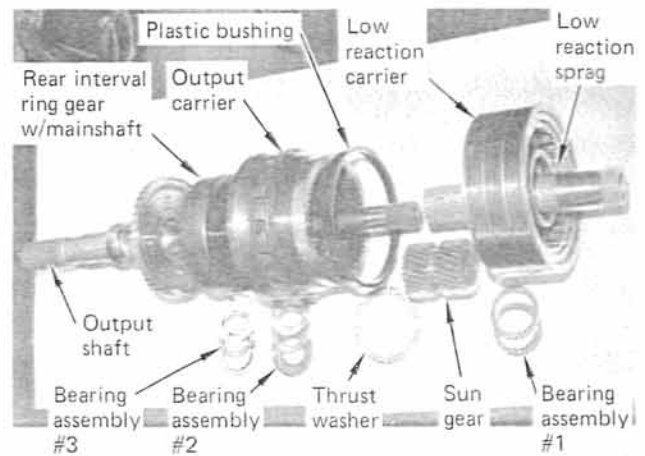

FIGURE 25
**STEP 1.** Slide reaction carrier off the planetary assembly. A bearing assembly will come off at the same time. (See Fig. 25) There will be a plastic or metal thrust washer between the two carriers. There will be a plastic bushing on the outside of the rear carrier. Remove the low reaction overrunning clutch from the carrier. There are two types: '64 - '65 model 36-element sprag assembly and the '66 and later model 16-element roller clutch assembly. Roller elements can be removed from the cage for cleaning. Do not remove elements from the dog-type clutch. Put the overrunning clutch parts in the oil pan.